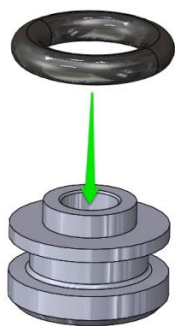
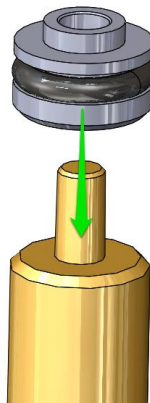

Fig. 23
Fig. 24
- Lubricate and install the HP O-ring V2.010 onto the 6493 Seat (Fig. 23). Place the sealing edge of the seat 6493 down onto the small diameter end of a clean HP Seat tool 40.6536.2. Use care not to damage the seating surface of the seat 6493 (Fig. 24).